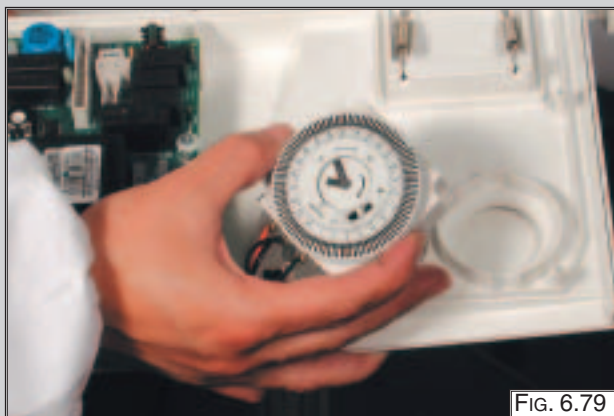

FIG. 6.79
3. Lift the time clock out from the control panel (FIG. 6.79).